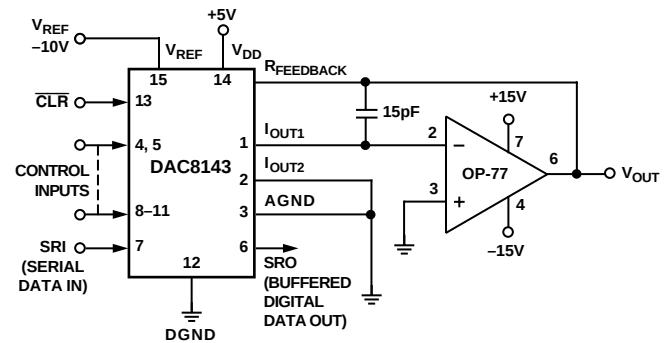

Figure 16. Unipolar Operation with High Accuracy Op Amp (2-Quadrant)
1. Phase compensation (see Figures 16 and 17).
The circuit shown in Figures 16 and 17 may be used with an ac or dc reference voltage. The circuit's output will range between 0 V and +10(4095/4096) V depending upon the digital input code. The relationship between the digital input and the analog output is shown in Table II. The V_{REF} voltage range is the maximum input voltage range of the op amp or ± 25 V, whichever is lowest.
¹Nominal full scale for the circuits of Figures 16 and 17 is given by
²Nominal LSB magnitude for the circuits of Figures 16 and 17 is given by
The transfer function for the DAC8143 connect in the multiply-ing mode as shown in Figures 16 and 17 is:
In most applications, linearity depends on the potential of I_{OUT1} , I_{OUT2} , and AGND (Pins 1, 2 and 3) being exactly equal to each other. In most applications, the DAC is connected to an external op amp with its noninverting input tied to ground (see Figures 16 and 17). The amplifier selected should have a low input bias current and low drift over temperature. The amplifier's input offset voltage should be nulled to less than $\pm 200 \mu V$ (less than 10% of 1 LSB).